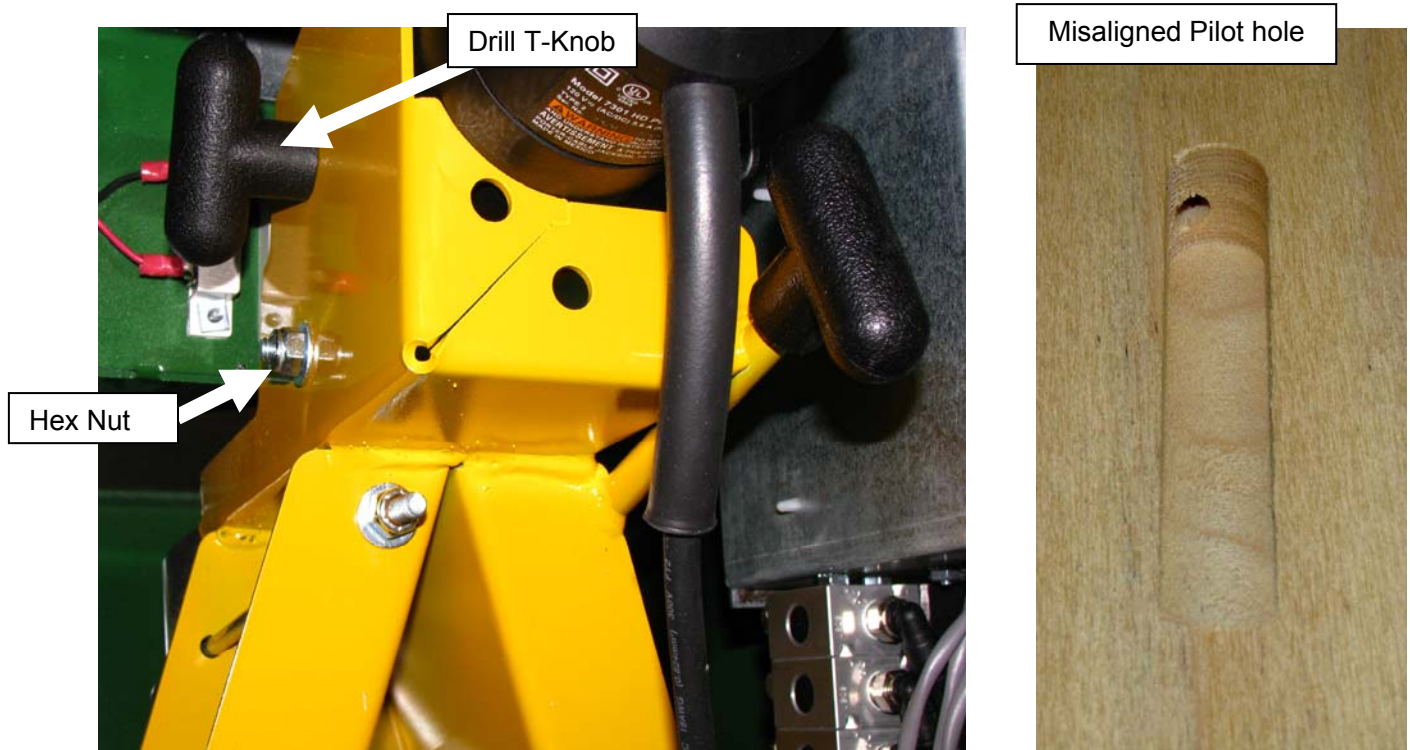

Fig 24
1. From the rear door, locate the hex nut immediately below the Drill T-Knob on the upper left side of the Motor Carriage. **See Fig 24.**